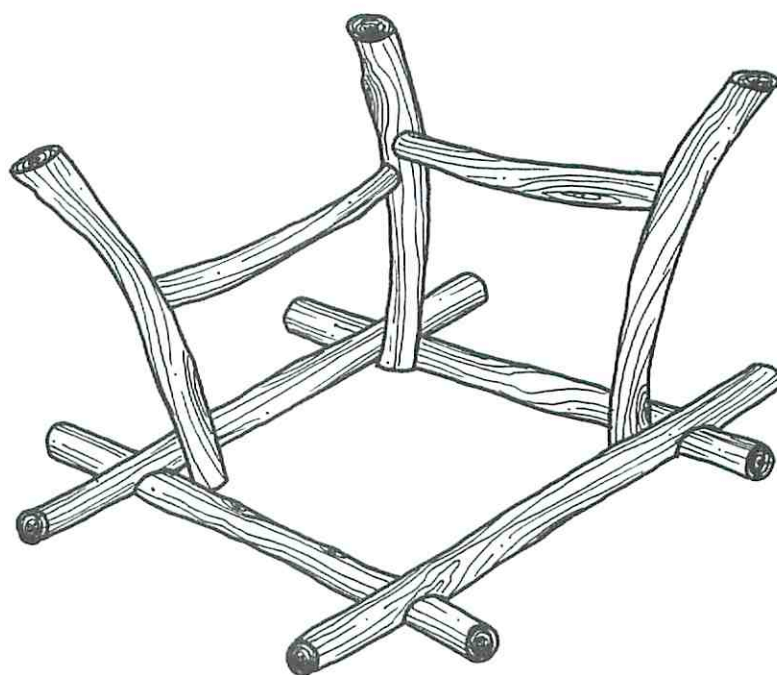

Figure 5
clamp it then go on to the second leg. Once it's secured, you can drill and bolt one of the stretchers (C) and use it to connect the two legs together. See Fig. 5.
should be attached closer to the frame of the table so the stretcher height is staggered (refer again to Fig. 5).